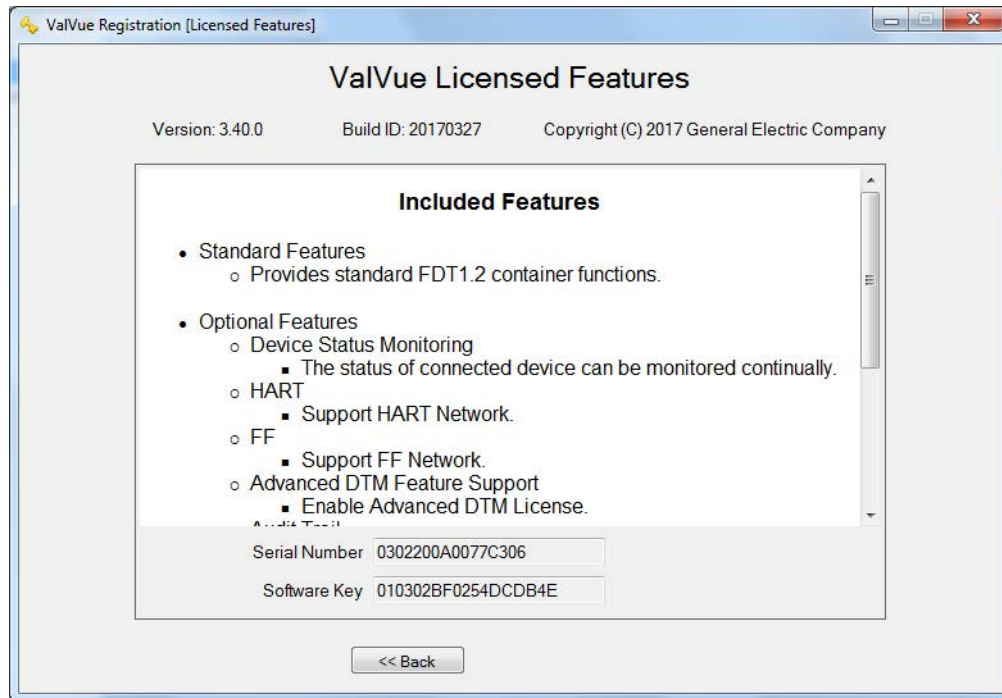

Figure 44 - Included Features
2. Click  and Figure 44 appears.